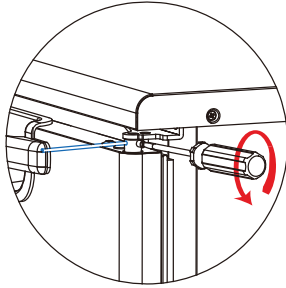

Fig 9-22
3. Turn and detach the tension pin by using the a (-) screwdriver. Avoid dropping or losing the pin. (Fig 9-22)